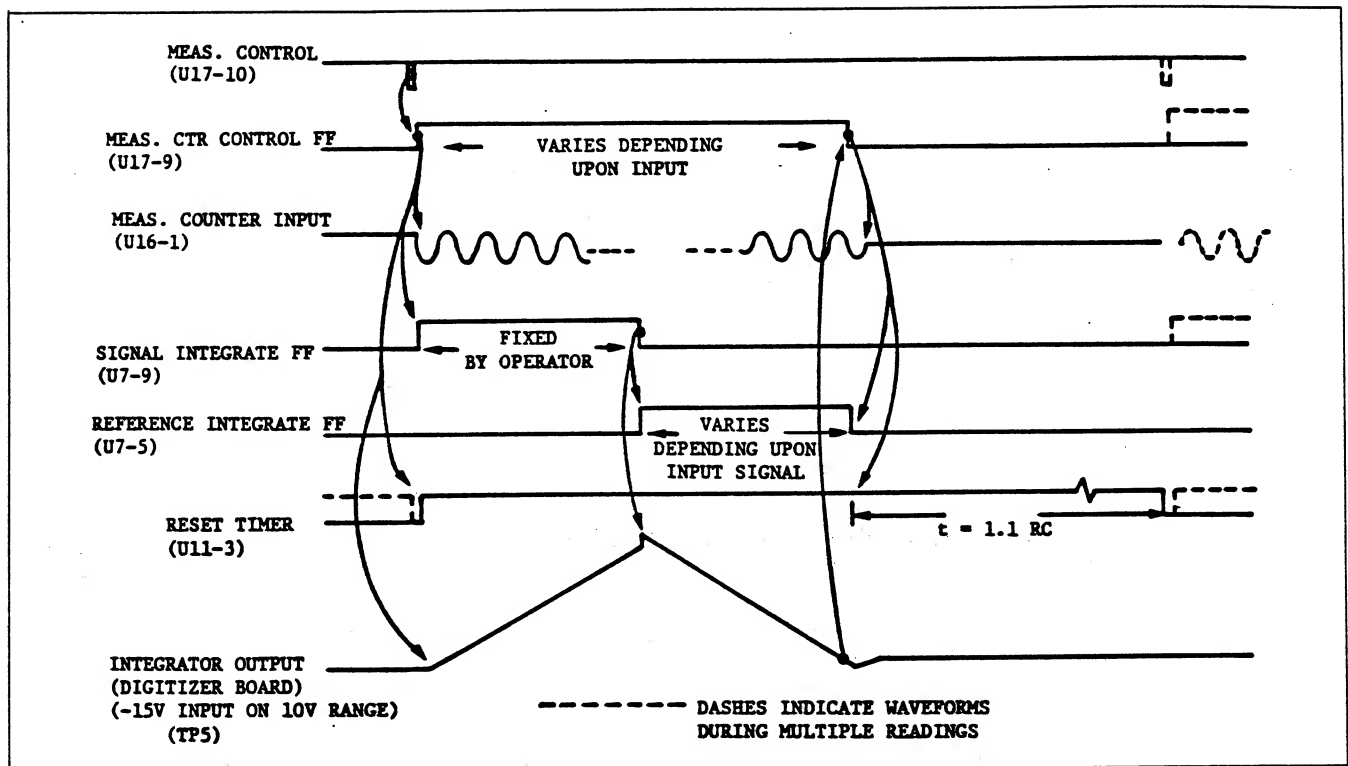

Figure 5.29 - Control Logic Digitizer Schematic Waveform (Single Reading)
5.4.3.4.3 *Integration Control Logic.* The integration measurement counters (U12 thru U16) are enabled when a microprocessor trigger (CY3 output of the address decoder) or an external trigger initiates a measurement cycle. The trigger causes the measurement counter control flip-flop (U17) to set. This, in turn, causes the clock sync logic flip-flop (U17) to set, thus allowing a synchronized clock signal to clock the measurement counter. The signal integrate flip-flop (U7) is also set, and the output is applied to the signal integrate transformer driver (Q1, Q2). Figure 5.29 shows the Control Logic and Digitizer waveform relationships.